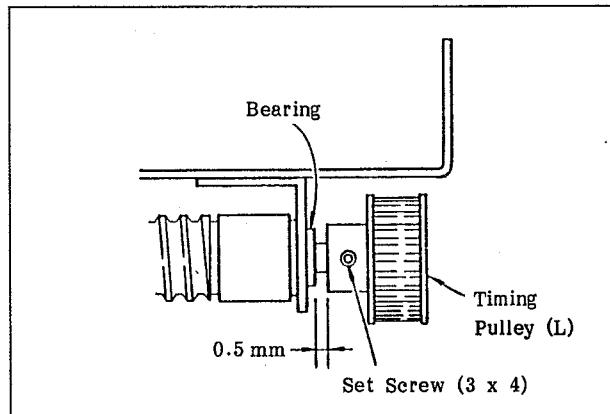

Fig. 6-37 Attaching the Timing Pulley
7. Insert a 0.5 mm thickness gauge between the bearing and the timing pulley as shown in Figure 6-37, and fasten the timing pulley by securing with the two set screws (3×4) while pushing the timing pulley towards the bearing.